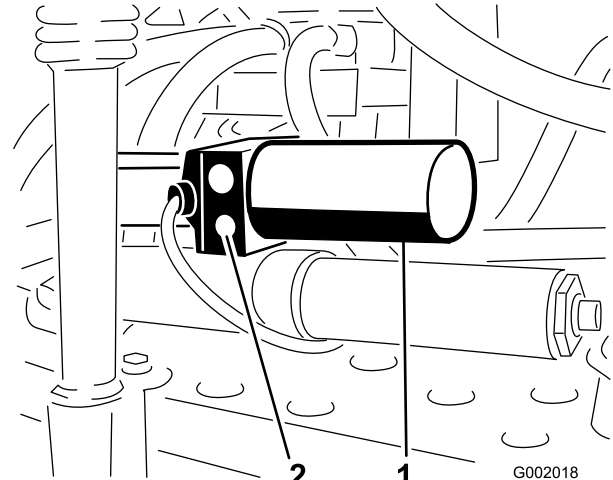

Figure 53
1. Locate the manual relief valve on the actuator for each boom. The manual relief valve is the smaller valve and is only on one side of the actuator body (Figure 53).